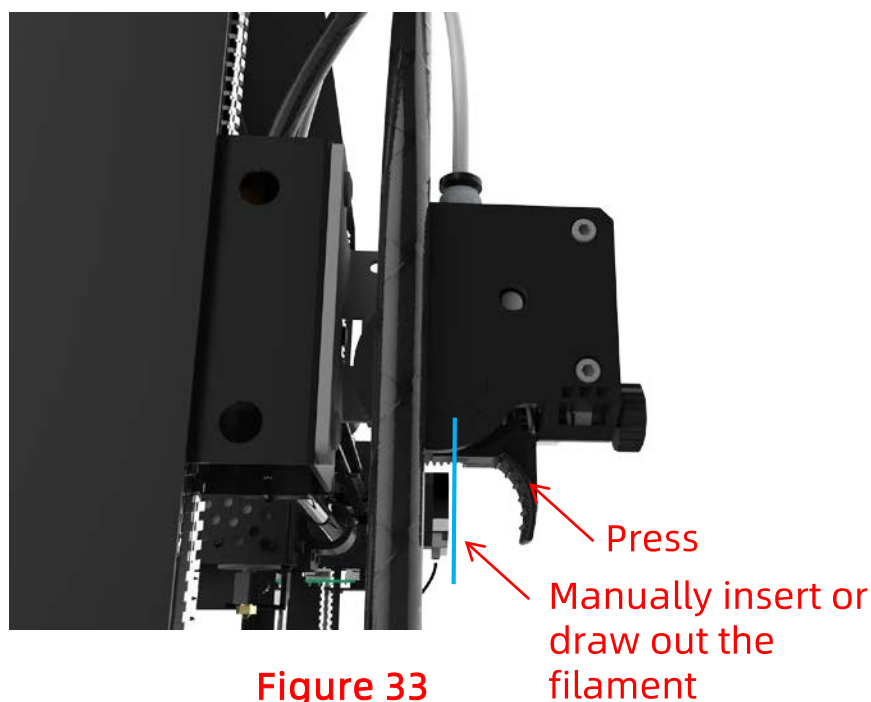

Figure 33
1.Feed the filament: click via the Home menu: “Tools”--> “Preheat” --> “Preheat PLA (for example)” . After it reaches to the target temperature, press down the handle at the extruder as shown in **Fig.33**, and manually push the filament through the Teflon tubing till the hotend and there should be filament melt through the nozzle. Make sure the filament passes through the filament sensor first before reaching into the extruder.
2.Remove the filament: at the Home menu, click “Tools”--> “Preheat” --> “Preheat PLA (for example)” . After it reaches to the target temperature, press down the handle at the extruder as shown in **Fig.33**, manually push in the filament firstly until seeing the filament melt through the nozzle, then quickly draw out the filament. The purpose of pushing in the filament is to minimize the risk of nozzle clogging.